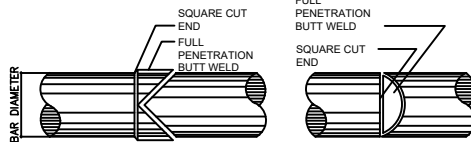

FIG. 7. TYPICAL WELD SPLICE DETAIL
- F. NO SPLICE SHALL BE PERMITTED ON BEAMS WHERE CRITICAL BENDING OCCURS. LENGTH OF LAP SPLICE WHERE PERMITTED SHALL BE AS SHOWN IN TABLE 2. WELD SPLICE SHALL BE DEVELOP IN TENSION AT LEAST 125% OF THE SPECIFIED YIELD STRENGTH OF BAR. NOT MORE THAN 50% OF THE BARS AT ANY ONE SECTION SHALL BE ALLOWED TO SPLICE THEREIN. A TYPICAL WELDED SPLICE DETAIL IS SHOWN IN FIGURE 7.